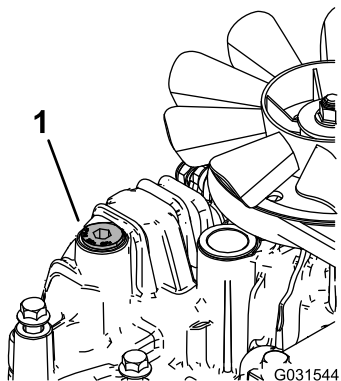

**Figure 75**
5. Locate the drain plug in the bottom of each transmission and place a drain pan under the plugs (Figure 75).